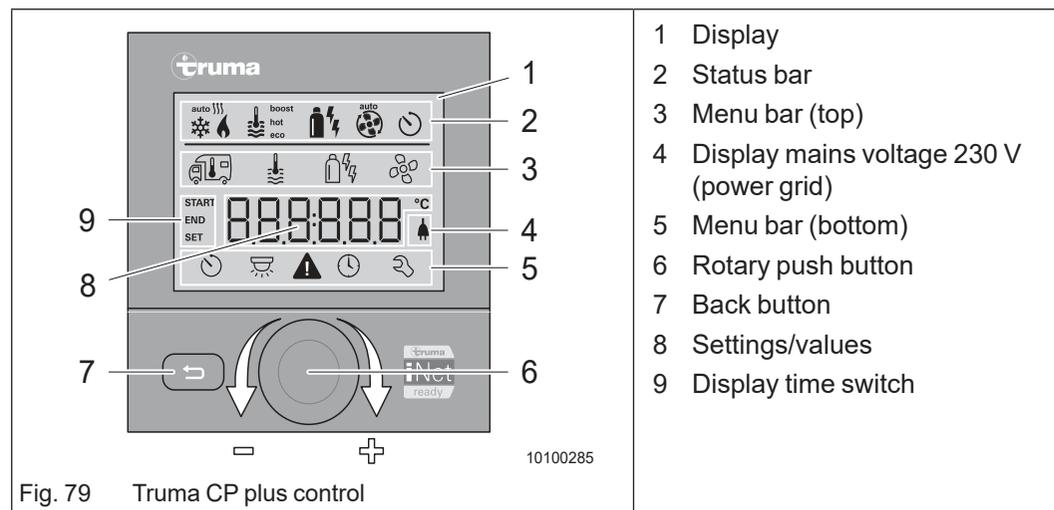

Fig. 79 Truma CP plus control
- ➔ Press the rotary push button (Fig. 79/6) for more than 4 seconds.
- ➔ Turn the rotary push button (Fig. 79/6) to the required menu to the right or left.
- ➔ Use the Back button (Fig. 79/7) to return to the previous menu or the previous display.